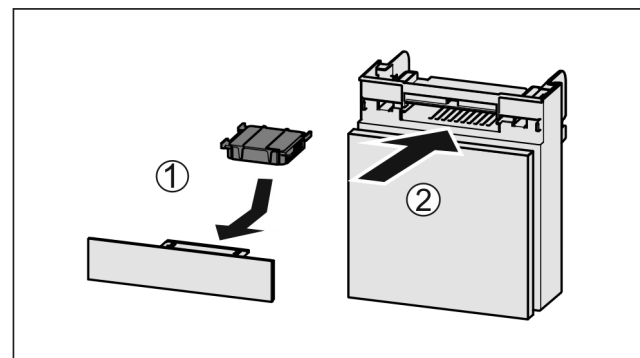

Fig. 77
- ▶ Insert the carbon filter as shown in the diagram Fig. 77 (1).
- ▶ Push the compartment in *Fig. 77 (2)*.